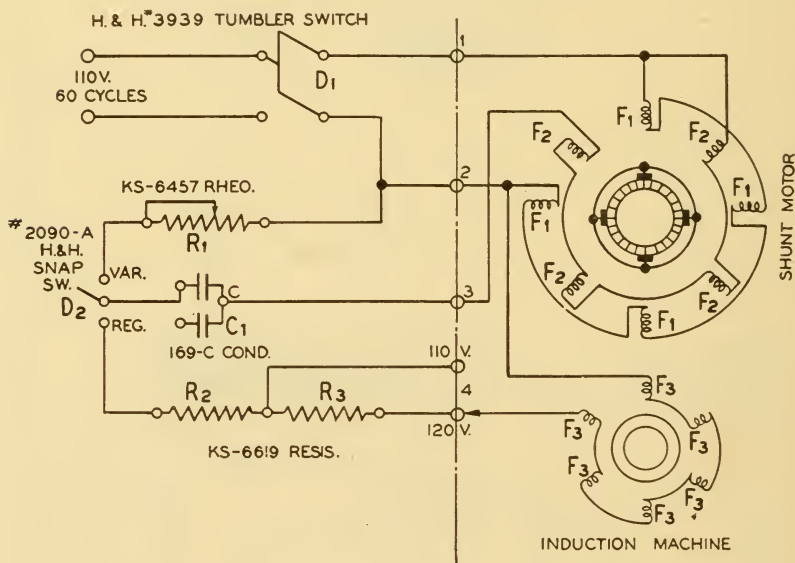

FIG. 148.—Schematic circuit drawing of motor speed control cabinet without vacuum tubes.
(11) Five types of speed control cabinets, all produced by one manufacturer, are used to regulate projector speed. To some extent they are being superseded by the simple synchronous motor. Many, however, are still in use. The tubeless type is diagrammed in Figure 148.
(12) The dot-dash line of Figure 148 separates the motor from the control box wiring. In this arrangement
The motor of Figure 148 contains a stator consisting of the windings designated in the drawing as F-1. The speed control field is composed of windings F-2. Driving
One other matter of exceptional importance in the case of projector drive motors is that of starting torque. Starting must be rapid enough for a smooth changeover but not so abrupt that it may damage either the film or the transmission system. In the case of some projector drive motors the starting torque can be varied by shifting the position of the brushes on the commutator. This is true, for example, of the motor shown in Figure 148. In all such matters reliance must be placed on manufacturer's instructions; details vary much too widely for treatment here.
The motor control cabinet of Figure 148 needs no attention and gives very little trouble. Any electrical difficulty that may develop is readily found with a voltmeter, since the cabinet contains very few pieces of apparatus and the circuits are simple.